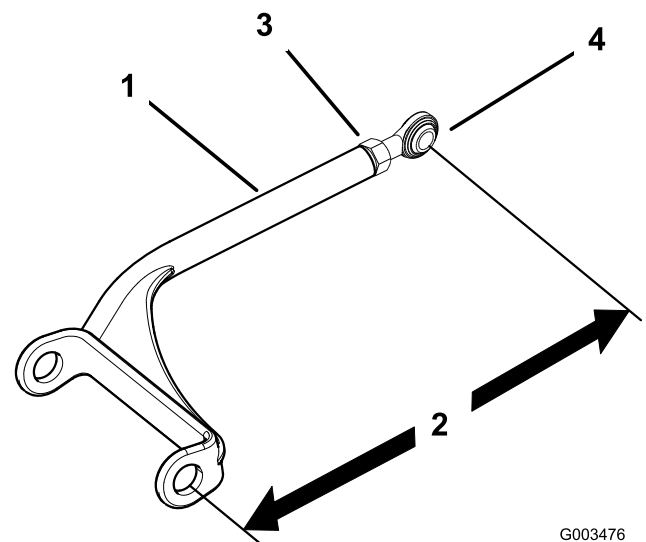

Figure 48
- Loosen the jam nut and rotate the ball joint counterclockwise, one turn at a time (Figure 48).
- Adjust each side the same amount. Each push arm should have a length of 15-1/8 inch (384 mm) (Figure 48).